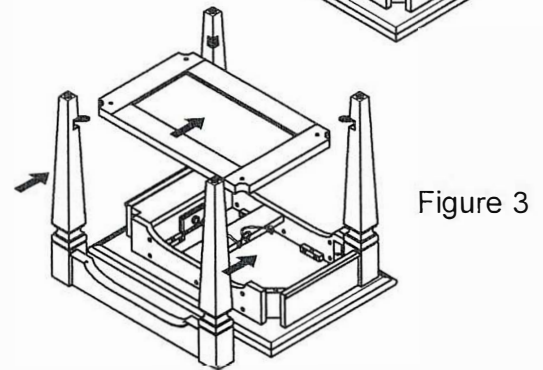

Figure 3
3. Attach leg frame and bottom shelf on the table of step 2. (See Figure 3).